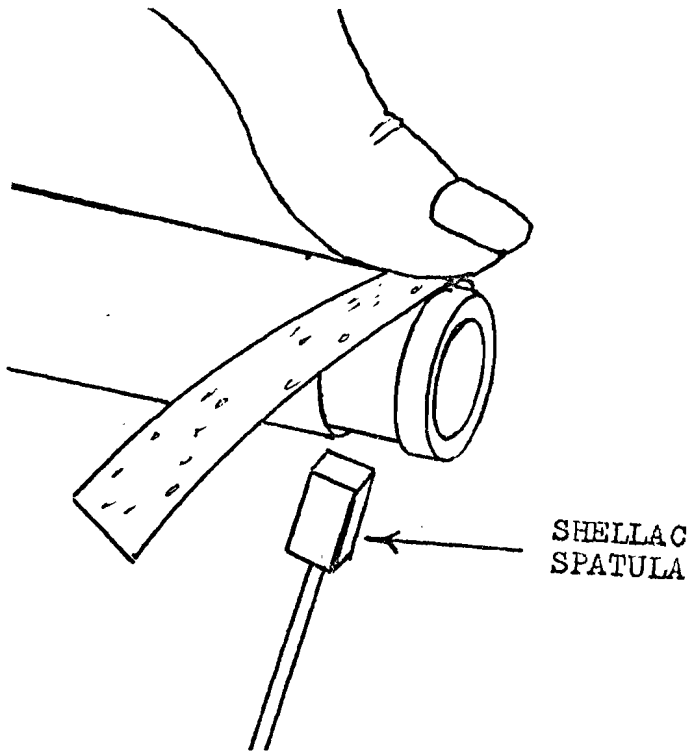

Figure 41
- f) Cradling the joint in the left hand as in n above, melt the shellac in the groove with the heated spatula and immediately press the cork into the groove, beveled end first, with the thumb (Figure 41, page 89).